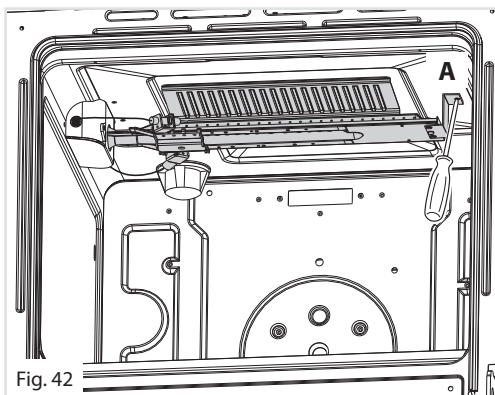

Fig. 42
- Unscrew and remove the burner securing screw “A” (fig. 42).